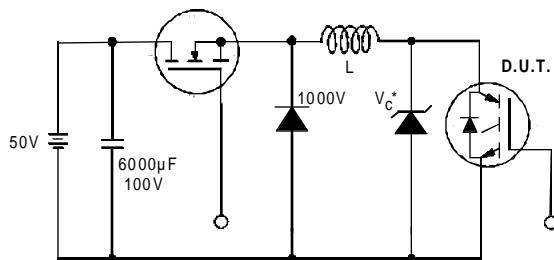

Figure 19. Clamped Inductive Load Test Circuit
② $V_{\text{CC}}=80\%(V_{\text{CES}})$, $V_{\text{GE}}=20\text{V}$, $L=10\mu\text{H}$, $R_G=23\Omega$, (See fig. 19)
④ Pulse width 5.0 μs , single shot.
③ Pulse width $\leq 80\mu\text{s}$; duty factor $\leq 0.1\%$.
- ② $V_{CC}=80\% (V_{CES})$, $V_{GE}=20V$, $L=10\mu H$, $R_G = 1\Omega$ (Figure 19)
- ③ Pulse width $\leq 80\mu s$; duty factor $\leq 0.1\%$.
- ④ Pulse width 5.0 μs , single shot.